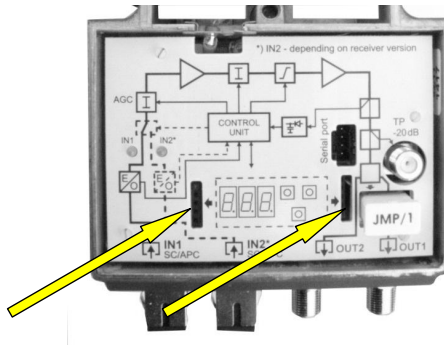

Fig. 8.1. Layout of plug-in ports for installing the local monitoring module.
To install the TCM 729 local monitoring module, you should plug the module into the appropriate ports - see figure 8.1.
- Fig. 8.1. Layout of plug-in ports for installing the local monitoring module.